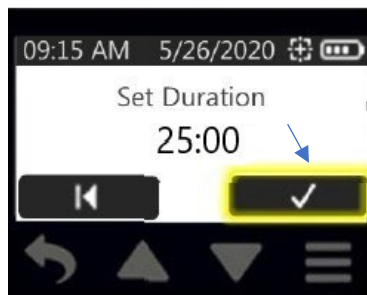

Figure 20. Accept Button
5. Touch check mark to accept new time and return to Main Display. New time setting will display (Figure 20).